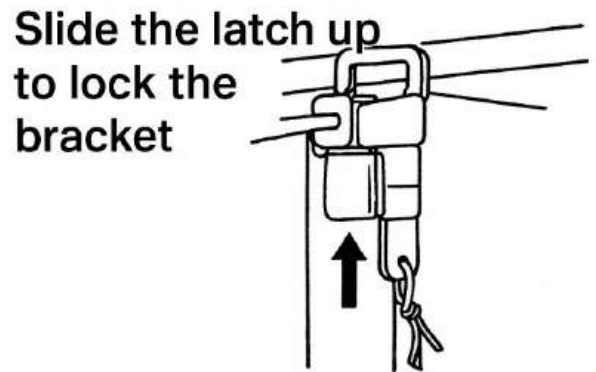

Figure 7
- a. Slide the converging plates on the cross arms into the converging sockets on the main bracket (Figure 7).